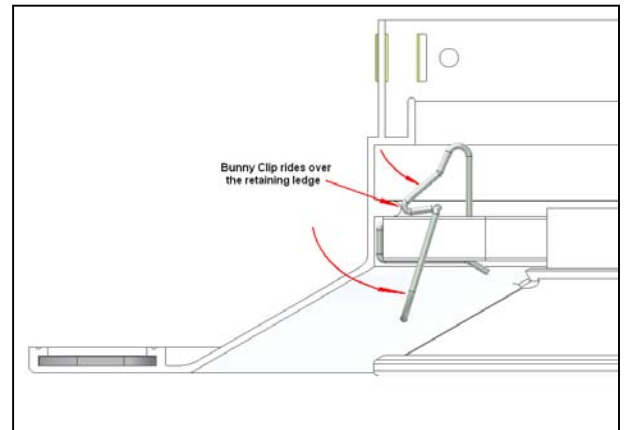

Figure 11: Push Clip inwards to release
- b) Push the Bunny Ear clips towards the centre of the Diffuser. This will disengage the Clip from the Outer Frame and release that side of the Core. (See figure 11).